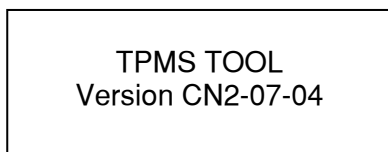

Fig. 1
- Displays first the software version as **Fig. 1**.